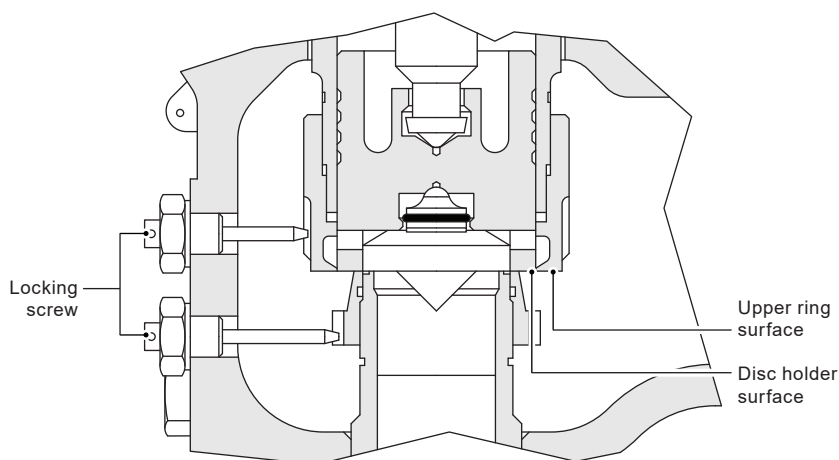

Fig. 2
- 2 Remove the locking screws from the upper and lower rings (4) (3).
- 3 Move the upper ring (8) so that the lower face is at the same level as the face of the disc holder (Figure 2).